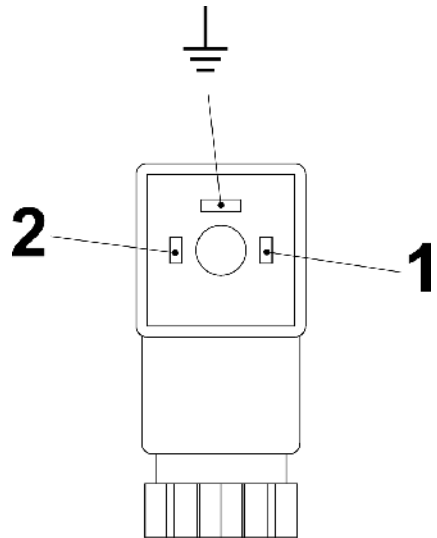
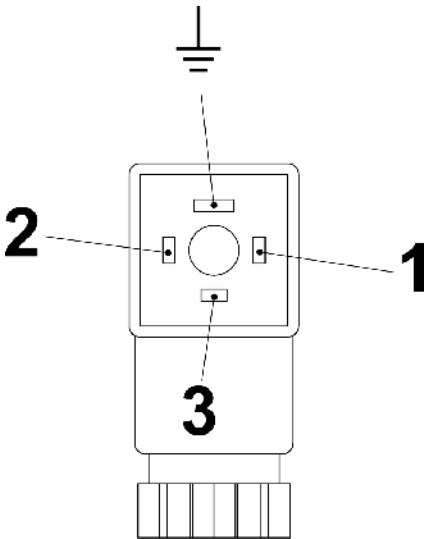

Fig. 24: Pin assignment, plug socket, Normally Open Contact (Form 15x50)
Fig. 25: Pin assignment, plug socket, Change-over contact (Form 15x50)
6. ➤ Make the connections as shown in the connecting diagram (Fig. 24 und Fig. 25)